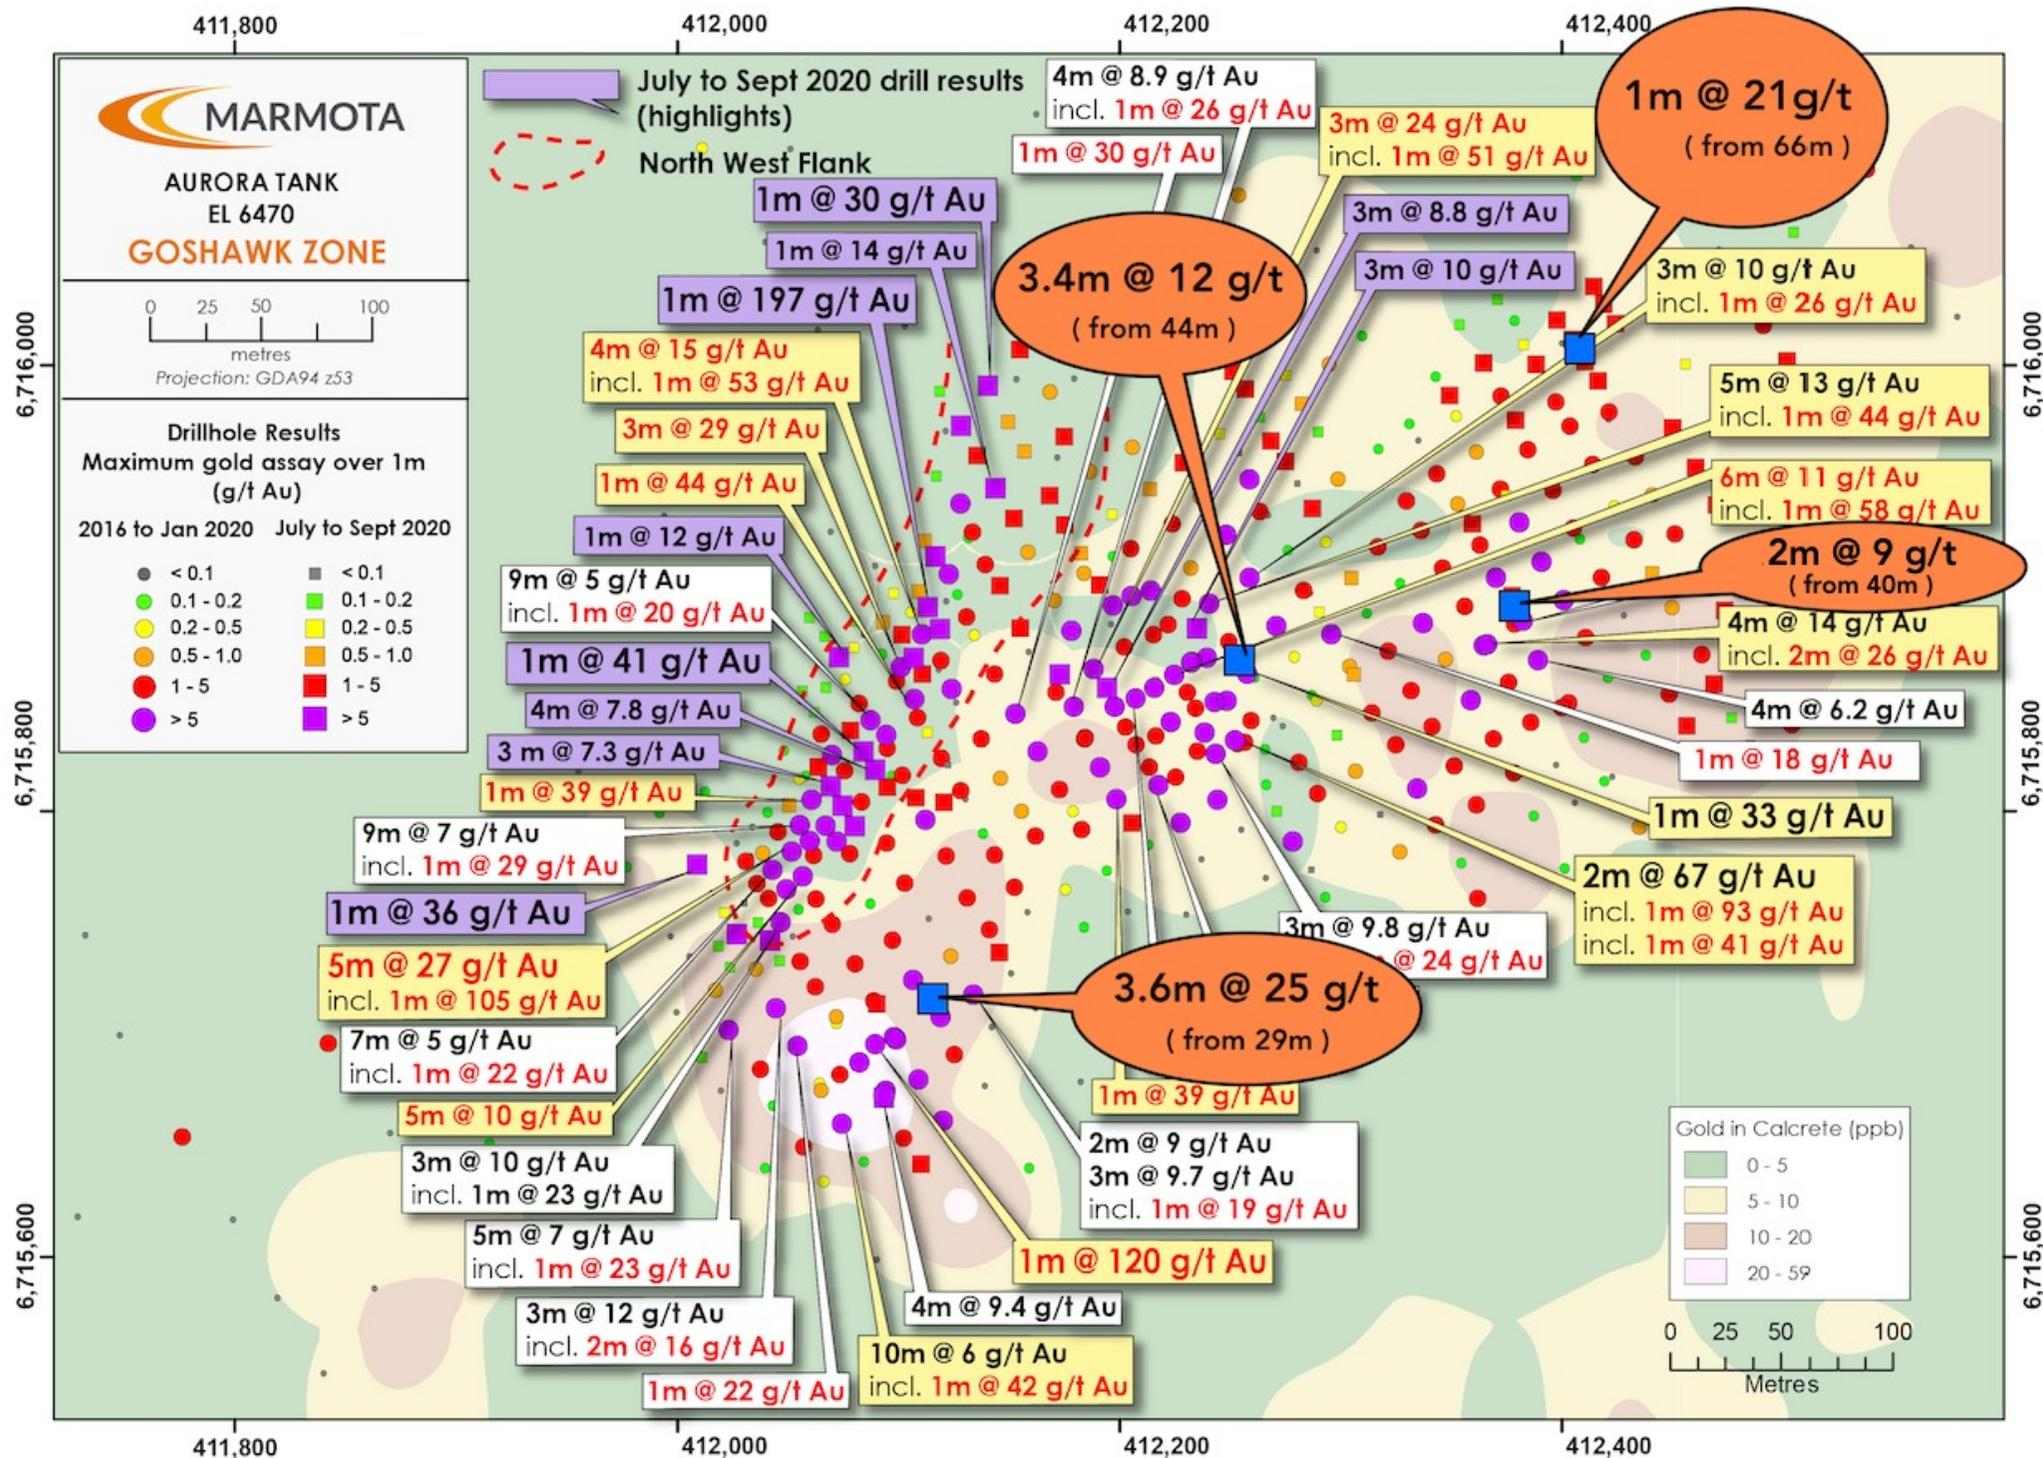

Figure 1: Aurora Tank – significant new diamond assays
- Importantly, the program has yielded the **first high-grade gold on the NE of the deposit**, including **1m @ 21 g/t** in Hole 21ATDD10 [see Fig 1 and 3]. This is particularly relevant, as Marmota will be testing the sub-parallel zone extensions (parallel to the NW flank) in the current RC program that has just commenced on Monday [see ASX:MEU 12 April 2022] .